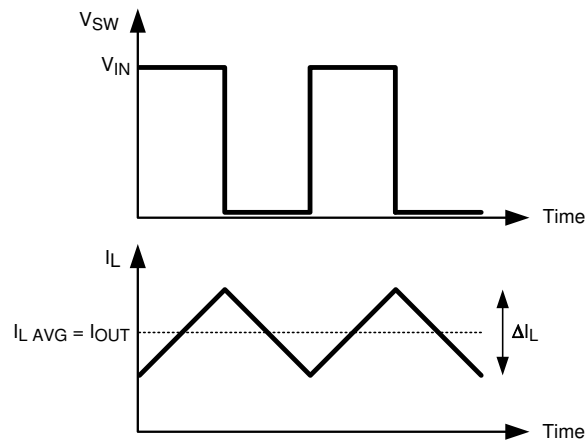

Figure 8-5. Switch And Inductor Current Waveforms
The inductor (L) used in the application influences the ripple current and the efficiency of the system. The first selection criteria is to define a ripple current, ΔI_L . In a buck converter, it is typically selected to run between 20% to 30% of the maximum output current. Figure 8-5 shows the ripple current in a standard buck converter operating in continuous conduction mode. Larger ripple current results in a smaller inductance value, which will lead to a lower series resistance in the inductor and improved efficiency. However, larger ripple current will also cause the device to operate in discontinuous conduction mode at a higher average output current.